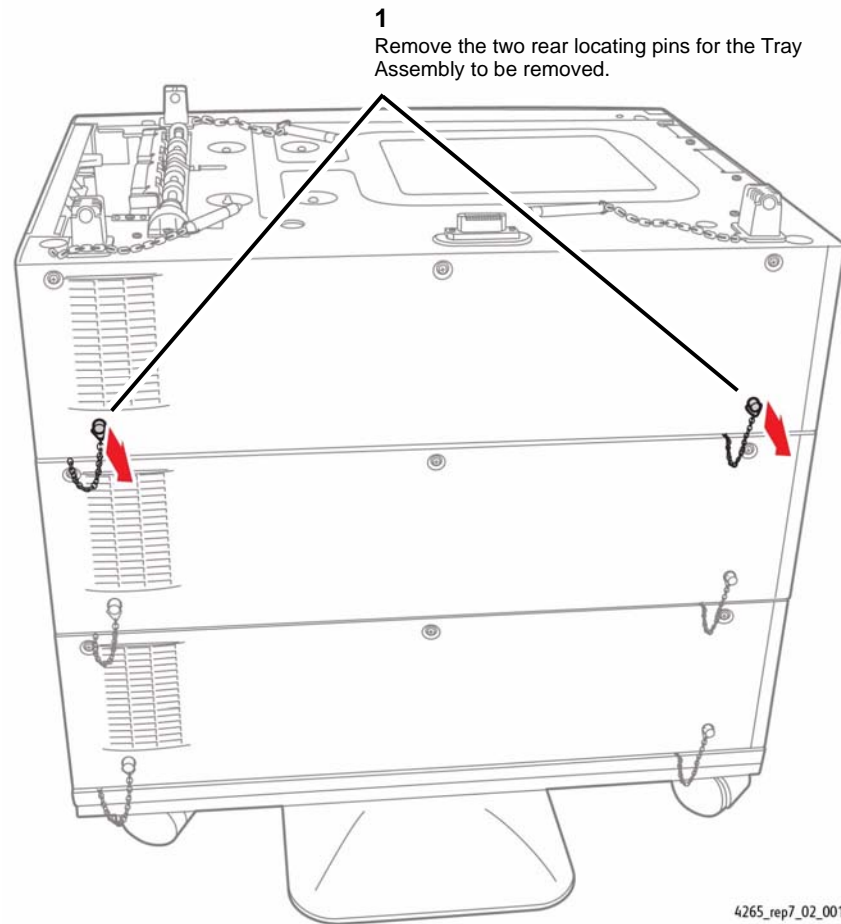
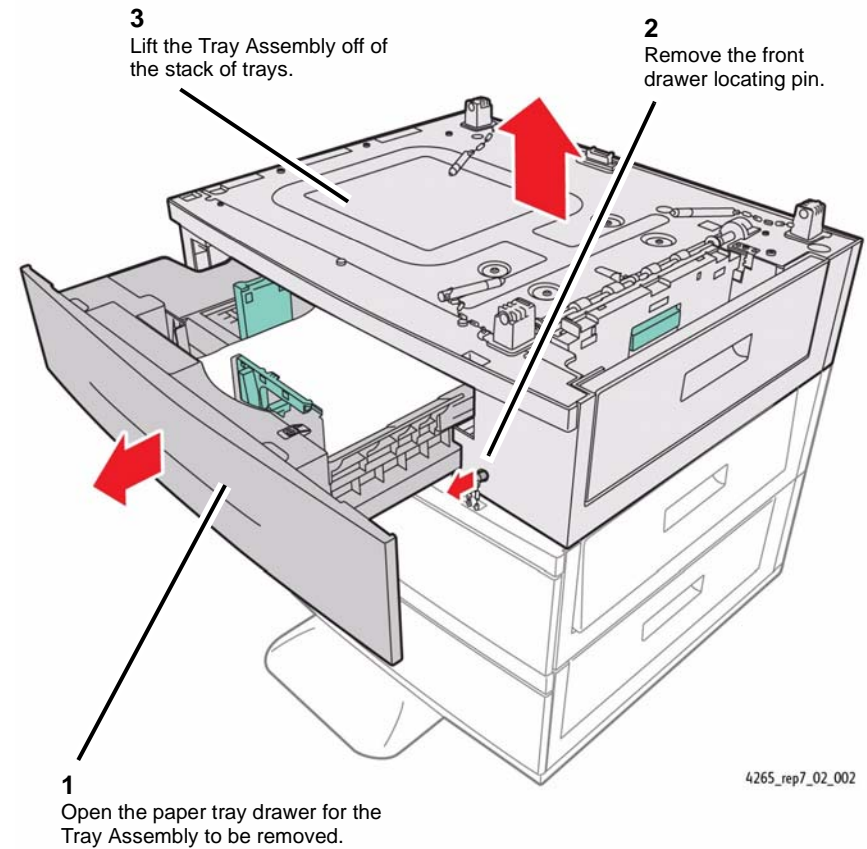

Figure 1 Removing the Rear Locating Pins
Figure 2 Removing the Front Locating Pin
4. Remove the damaged tray assembly from the stack of trays (Figure 1) (Figure 2).